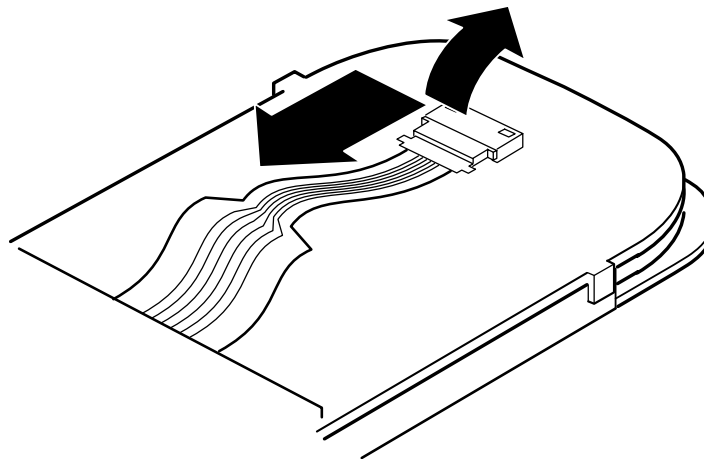

Figure 11: LC disassembly 2
11. Figure 11 Disconnect the LC from the logic C